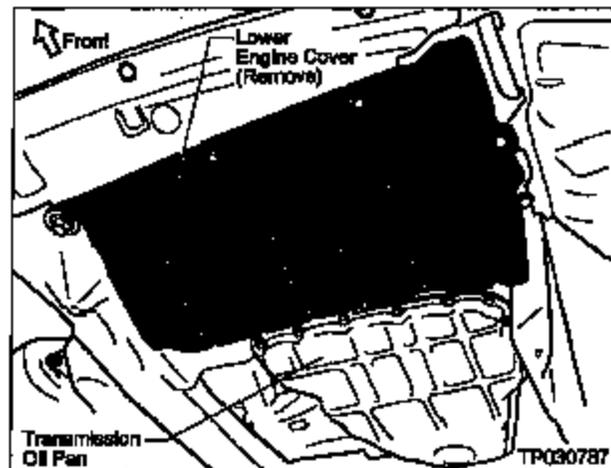

Figure 2
2. Remove the Lower Engine Cover (see Figure 2).